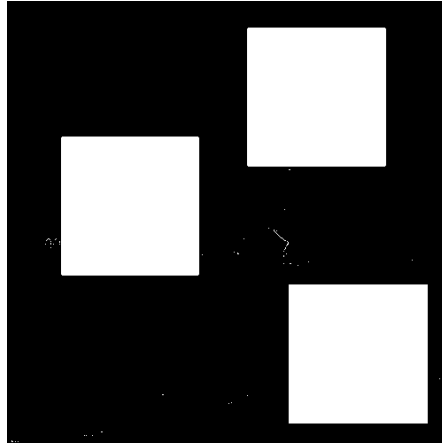

Figure 1-2: Value=255 pixels(white pixel) in "lighthouse.raw"
- In **Figure 1-2**, we can find that in order to locate the 3 up-left corner, we should find the pattern of **Figure 1-3**. (In the specific case here, we do not need to worry about that pixel outside but near the up-left corner of the hole has the value of 255.)